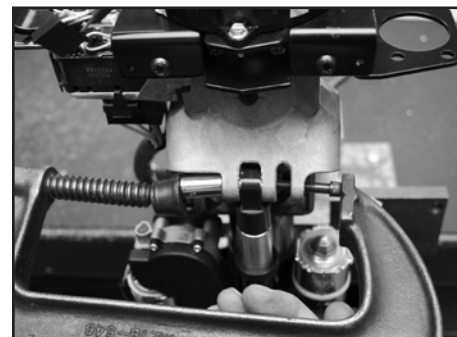

Figure 3
4. Press out top pivot pin using a C clamp, placing a bolt in the guide hole to press the pin out. On the other side place a socket to allow the pin to pass through. (P/N 040259) **Figure 3**